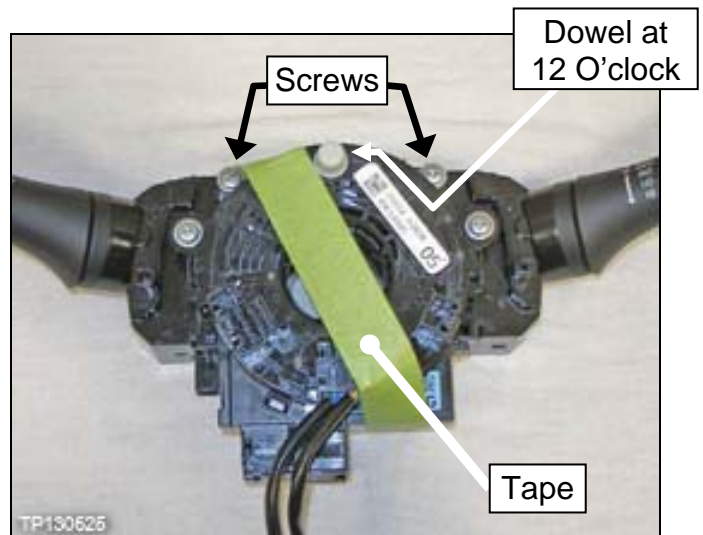

Figure 22
- Once both parts are removed, tape them together to keep the spiral cable from rotating (see next page, Figure 22).
- Loosely fasten the spiral cable to the combination switch with the two (2) screws, and then tape them together (see Figure 22).